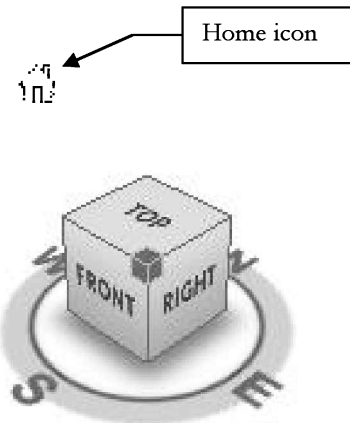

FIGURE 1-5.5 ViewCube
- You should notice the *ViewCube* in the upper right corner of the drawing window (Figure 1-5.5). If not, you can turn it on by clicking *View* → *Windows* → *User Interface* → *ViewCube*.